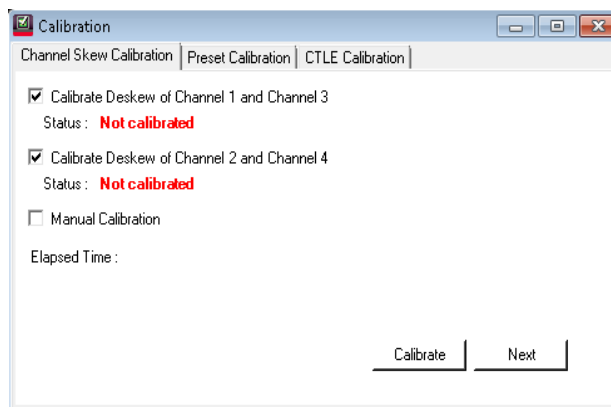

Figure 28 Default view of the **Calibration** window
- 2 The **Calibration** window appears. It has three tabs—**Channel Skew Calibration**, **Preset Calibration** and **CTLE Calibration**. As shown in Figure 28, the **Channel Skew Calibration** tab view displays by default.